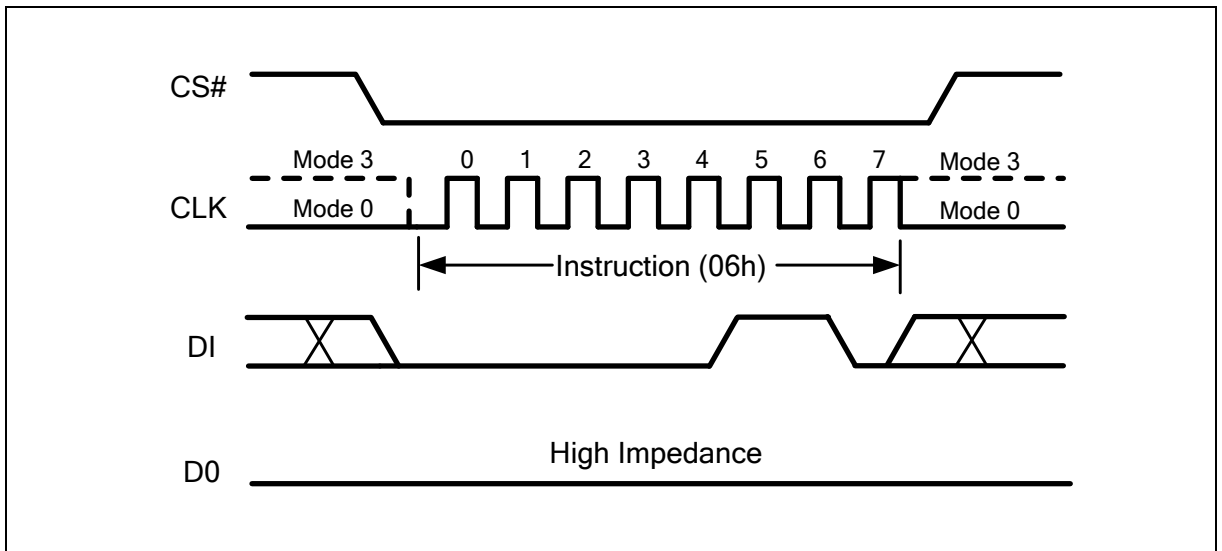
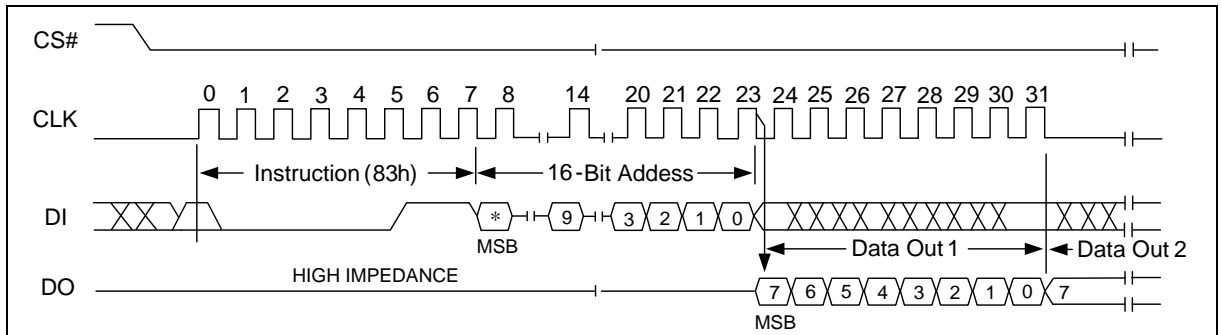

Figure 5 Write Enable Instruction
Figure 15 Read UID Number Sequence
Instructions vary in length from a single byte to several bytes and may be followed by address bytes, data bytes, and in some cases, a combination. Instructions are completed with the rising edge of edge CS#. Clock relative timing diagrams for each instruction are included in Figure 5 through Figure 15. All read instructions can be completed after any clocked bit. However, all instructions that Write must complete on a byte boundary (CS# driven high after a full 8-bits have been clocked) otherwise the instruction will be ignored. This feature further protects the device from inadvertent writes. Additionally, while the memory is being written, or when the Status Register is being written, all instructions except for Read Status Register will be ignored until the write cycle has completed.
The Write Enable (WREN) instruction (Figure 5) sets the Write Enable Latch (WEL) bit in the Status Register to a 1. The WEL bit must be set prior to every Write and Write Status Register instruction. The Write Enable (WREN) instruction is entered by driving CS# low, shifting the instruction code “06h” into the Data Input (DI) pin on the rising edge of CLK, and then driving CS# high.
The Read Unique ID Number instruction accesses a factory-set read-only 128-bit number that is unique to each FM25080 device. The ID number can be used in conjunction with user software methods to help prevent copying or cloning of a system. The Read Unique ID instruction is initiated by driving the CS# pin low and shifting the instruction code "83h" followed by a 16-bit address A15-A0 into the DI pin. Address bit A9 must be '1b', upper address bits are don't care, the lower address bits [A3:A0] define the byte address inside the UID. After which, the 128-bit ID is shifted out on the falling edge of CLK as shown in Figure 15. When the end of the 128-bit UID number is reached (16 bytes of data), the data word address will roll-over back to the beginning of the 128-bit UID number. The read UID cycle is terminated by driving CS# pin high.